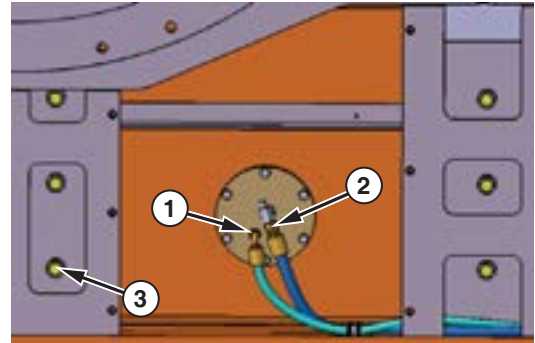

Figure 16 Bottom of Main Frame
2. Connect fuel supply line (2, Figure 16) and drain valve line (1) to fuel tank.